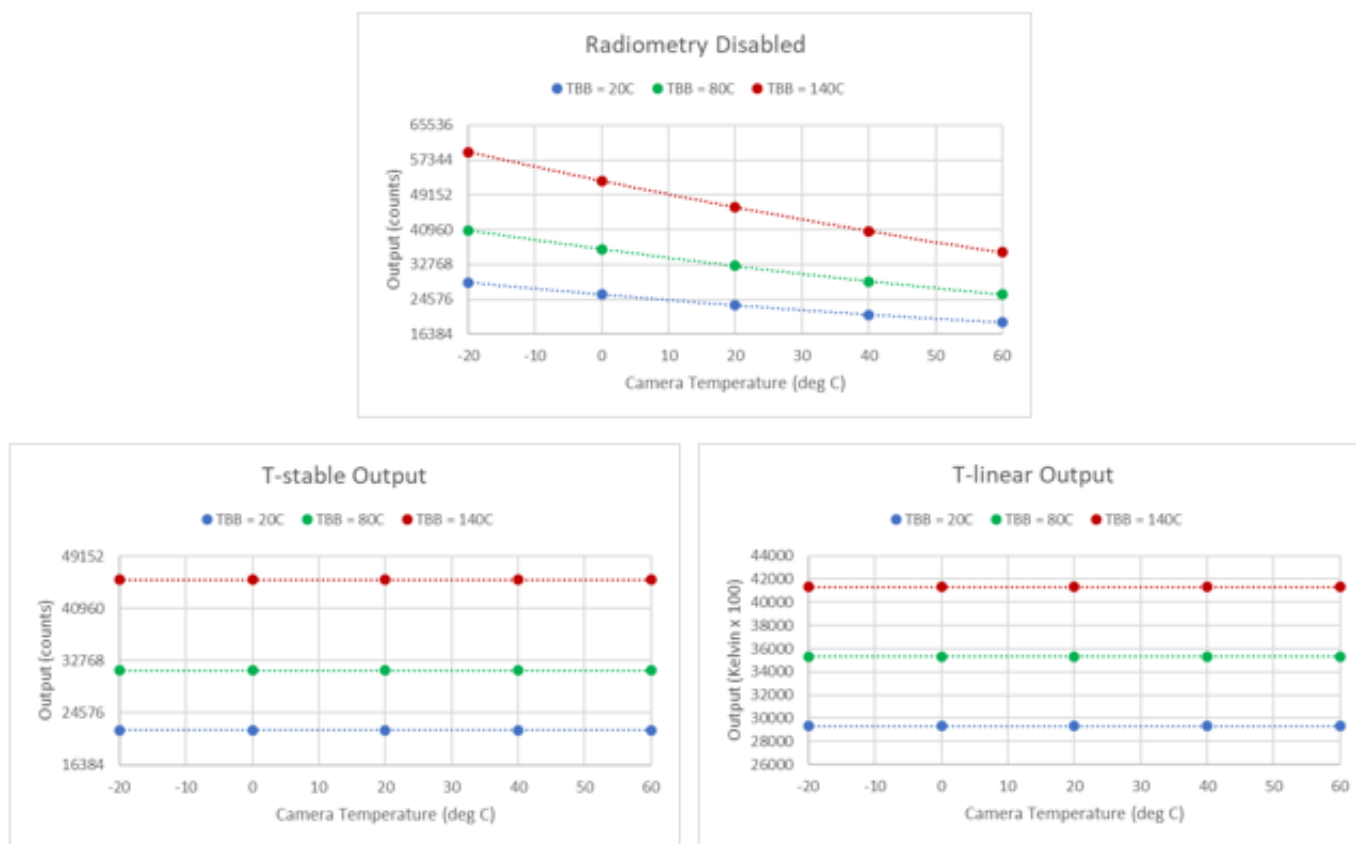

Figure 13: Output vs. Camera Temperature Comparison: Radiometry Disabled, T-Stable, and T-linear
Beginning with Release 3.0, some configurations of Boson provide the option of radiometric output. For such configurations, the 16b output can be configured to “temperature stable” or “temperature linear”, as described below and depicted in Figure 13.
- **Temperature-stable output:** 16b output value is intended to be proportional to scene-flux only and independent of the camera temperature. That is, when imaging a given scene, the output image is stable even if the camera's temperature varies, as shown in the middle graph of Figure 13. By comparison, output varies significantly with camera temperature when radiometry is disabled, as illustrated in the left-most graph.
- **Temperature-linear output:** 16b output value is intended to be directly proportional to scene temperature. In high-gain state, the 16b output value corresponds to scene-temperature in Kelvin multiplied by 100, and in low-gain state, it corresponds to Kelvin multiplied by 50. For example, expected output in high-gain state when imaging a 20C BB is $[(20C + 273.15)] * 100 = 29315$, as depicted in the right-most graph of Figure 13. In practice, radiometric error prevents an output which corresponds perfectly with scene temperature. See Section 11.5 for a discussion of radiometric accuracy.